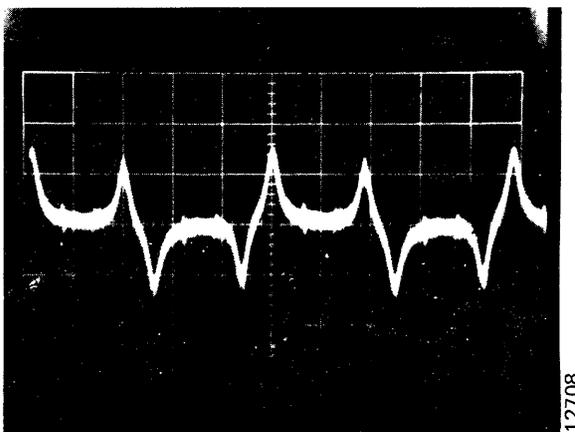

Figure 3-4. Head Alignment Dibit Waveforms
16. Set the scale switch on the meter box to OFF, address the head being aligned using the RSTHD and ADVHD switches on the exerciser; and turn on the exerciser CONT switch. A display resembling the aligned dibit signal shown in Figure 3-4 may or may not be seen on the scope.
balanced dibit signal, as shown in Figure 3-4. Head movement is controlled by adjusting the thumbscrew and the amount of pressure on the plier handles.